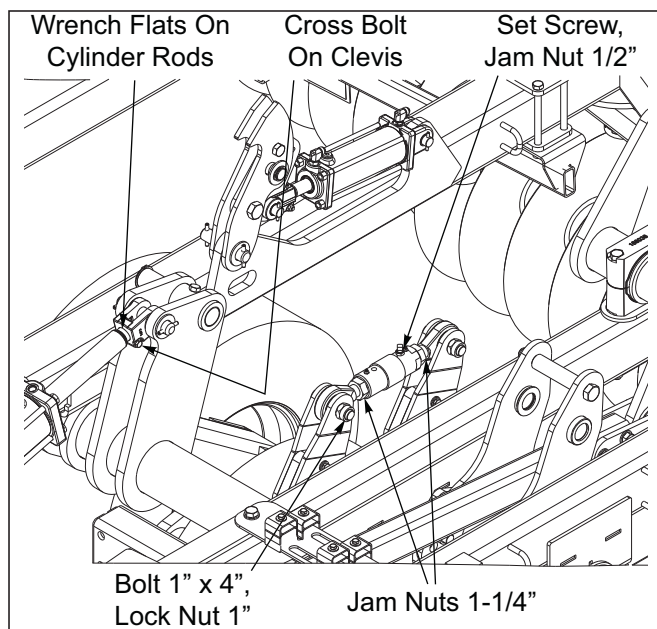

Figure 4-7: Center Frame Leveling
- e. Let the machine down onto the ground to relieve any pressure, but do not fully retract the cylinders. Remove 1-8 x 4 hex head cap screw from one end from the radius rod assembly and remove from frame **See Figure 4-7.**